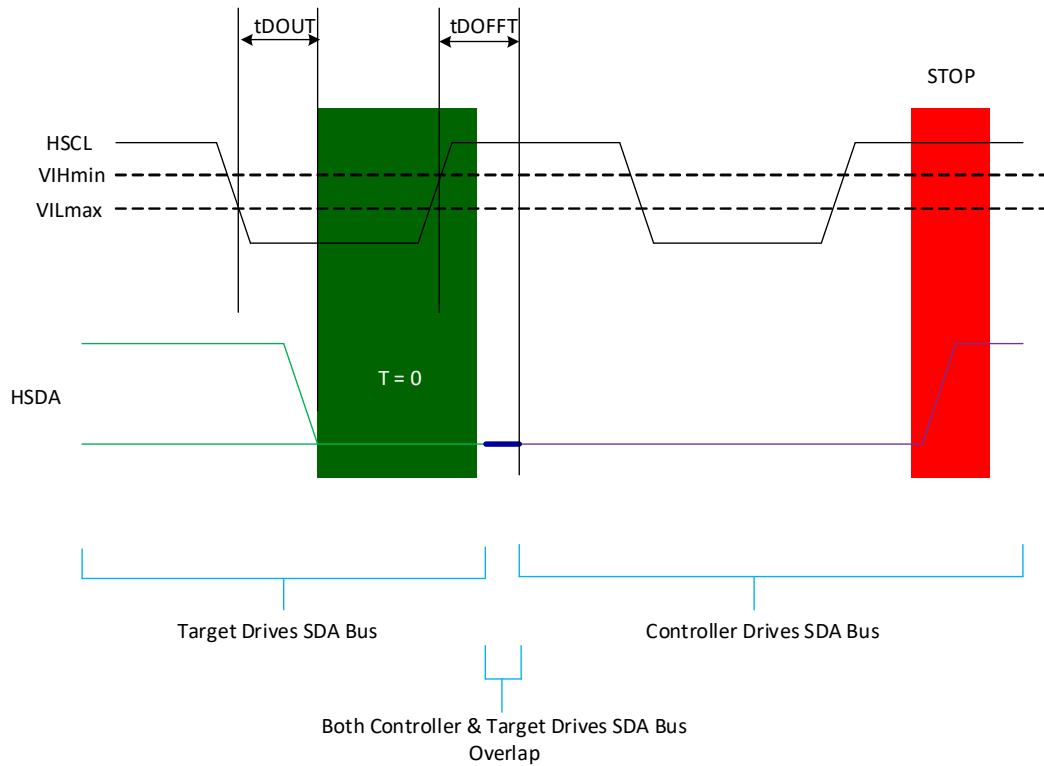

Figure 26 — T=0; Target Ends Read; Controller Generates STOP
- NOTE 7 See Figure 26 to see how target device ends the operation followed by Host STOP operation.
NOTE 7 See Figure 26 to see how Host ends target device operation followed by Host STOP operation.
- NOTE 2 See Figure 26 to see how target device ends the operation followed by STOP operation.
- NOTE 4 See Figure 26 to see how target device ends the operation followed by STOP operation.
NOTE 2 See Figure 26 to see how target device ends the operation followed by Host STOP operation.